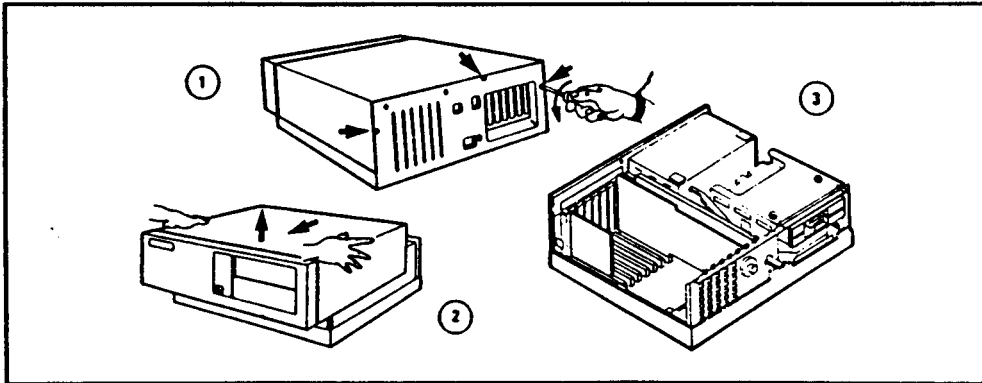

Figure 2-6 Removing the Computer Cover
1. Remove the computer cover (Figure 2-6).